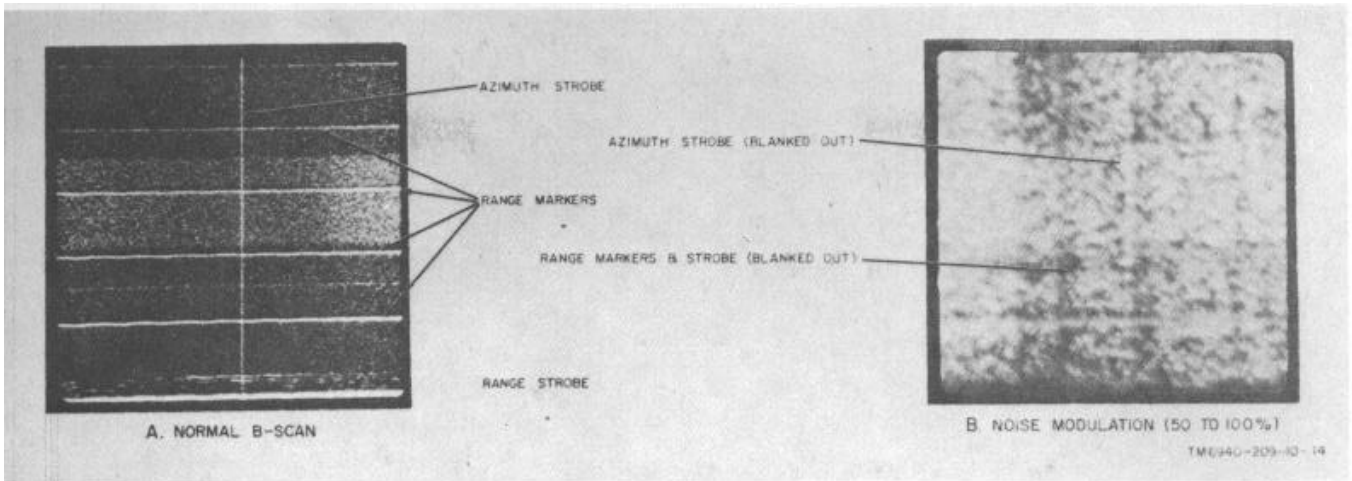

Figure 6. Normal B-scan and jamming by noise modulation.
d. *Noise-Modulation Jamming* (fig. 6). Noise-modulation jamming is considered the most effective type of modulation now used. The modulating noise signal is composed of sharp, narrow signal peaks of random frequency, phase, and amplitude. This type of modulation affords a high peak to average power ratio and very wide frequency spectrum coverage. Because normal antijamming measures are not very effective against high amplitude random-frequency jamming signals, it is very difficult to defend against noise-modulation jamming. It is probable that noise-modulation jamming will be encountered more often than any of the other types of amplitude-modulated jamming. Noise-modulation jamming usually will be employed in one of three ways as follows:
- (1) *Spot*. In noise-modulation spot jamming, the carrier is set at the frequency of a particular opposed radar. An attempt is then made to limit the modulations so that the transmitted power is concentrated in a band of frequencies just wide enough to cover the receiver band-pass of the radar set.
- (2) *Barrage*. Noise-modulation barrage jamming is used against a number of opposed radar sets at one time. The carrier is set to a frequency in a predetermined portion of the radar set spectrum. The modulation is then applied to produce a jamming signal that will cover as wide a band of frequencies as possible. In this way, all opposing radar sets operating within this wide frequency band will be affected by the signal from a single jamming unit. Several noise-modulation jammers tuned to adjacent frequencies may be used simultaneously to cover the frequencies of opposing radar sets.
- (3) *Swept frequency*. Noise-modulation swept frequency jamming is actually a jamming combination. In this type of jamming, the carrier is swept through a portion of the radar spectrum (the same as in swept frequency cw jamming). Wide band noise modulation is then
applied to the sweeping carrier. Swept frequency noise-modulation jamming produces a jamming signal, at relatively high power levels, that covers an extremely wide portion of the radar frequency spectrum. Noise-modulation jamming from the radar trainer is generated over a bandwidth of 3 mc. Noise-modulation percentage is continuously variable from 0 percent to 100 percent. If noise-modulation jamming is used, the radar scope will be filled with jagged dots which give the presentation a mottled appearance, and the rangemarkers and strobes will be blanked out (B, fig. 6).